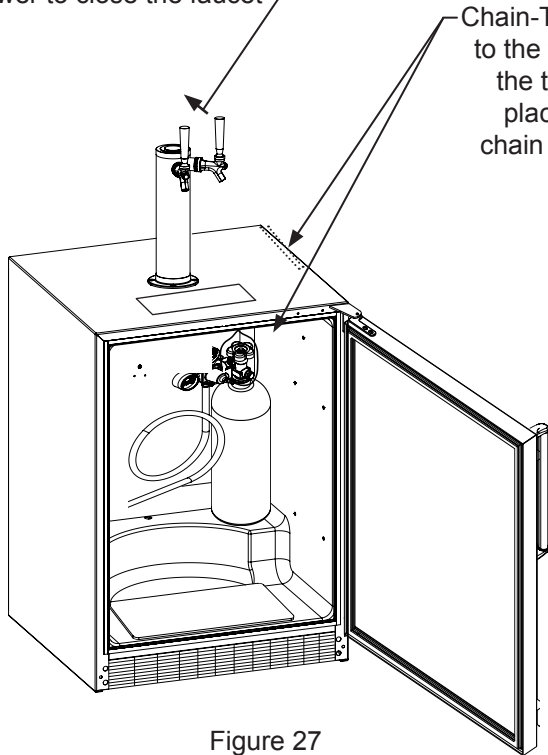

Figure 27
- Locate the CO2 tank in the corner of the refrigerator as shown in Figure 27 and secure with the chain. Close the faucet handle on the tower.